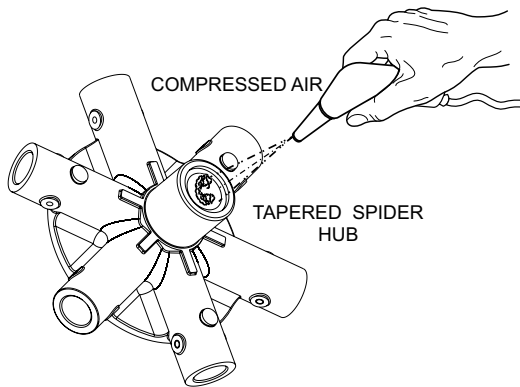

Figure 6. Residue Removal
2. Use compressed air (Figure 6) to blow away any remaining residue that may have accumulated inside the spider hub orifice.